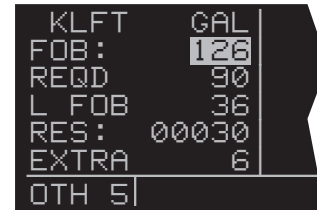

Figure 5-124
2. If it is possible to enter the present fuel on board by using the KLN 900 there will be a colon (:) following FOB on the display. If the colon exists press the left **CRSR** (figure 5-124), if the colon does not exist it is not possible to change the fuel on board through the KLN 900 (figure 5-123).